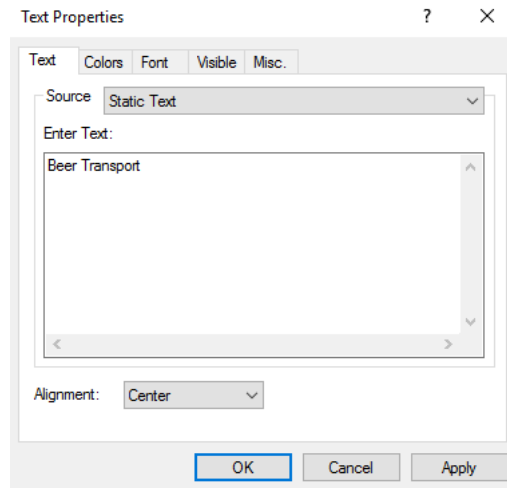

Figure 6.9: The text tab of the text properties dialog box
- ▶ select 'Center' from the 'Alignment' drop-down list (see Figure 6.9) ,